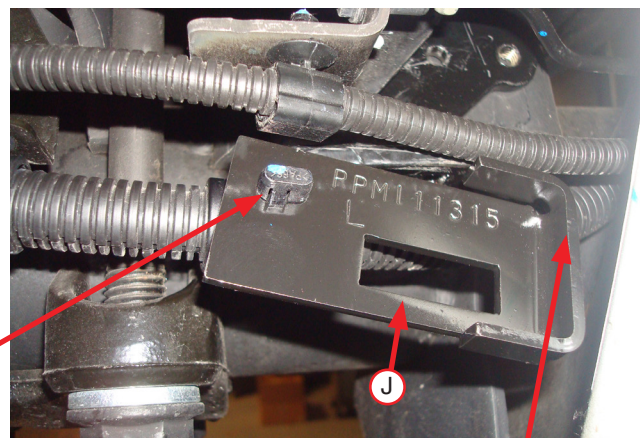
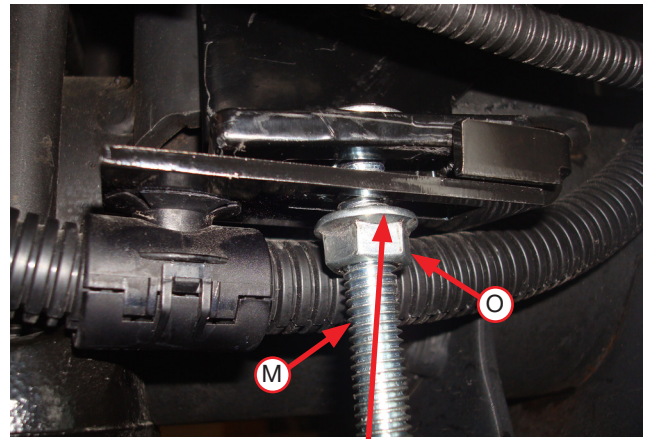

Fig. 15
Fig. 16
2. Attach the ABS loom holder (previously removed) to the underside of each ABS loom bracket (J & K) supplied (Fig. 15). The left-hand side is for the driver's (left) side, the right-hand side is for the passenger's (right) side. Once installed, the brackets will nest around the bottom of the lower bracket (Fig. 16).
3. Insert a 3/8" carriage bolt (M) through the lower bracket and ABS loom holder previously installed (Fig. 16). Install a 3/8" serrated flange lock nut (O) onto the carriage bolt with the flat portion of the nut facing up. Tighten nut up enough to nest the ABS bracket around the lower bracket, but do not tighten yet. Repeat for both sides.